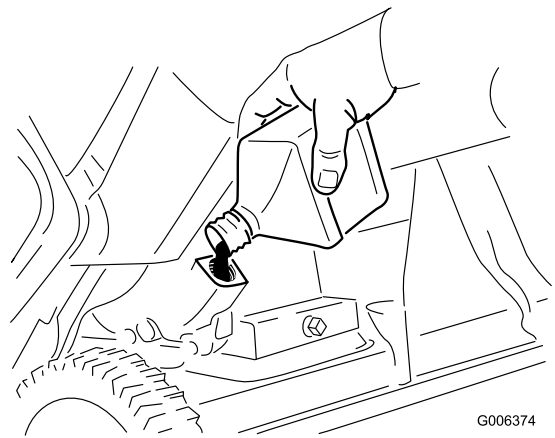

Figure 30
8. With the snowthrower in the operating position, **carefully** pour oil into the oil fill hole to the point of overflow (Figure 30).